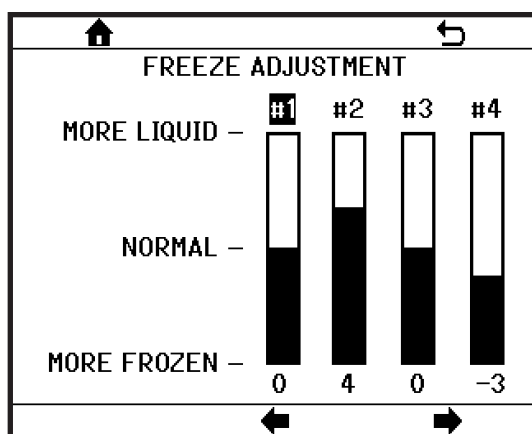

Figure 7.21
- FREEZE ADJUSTMENT: Used to adjust drink temperature or how frozen the drink is (Figure 7.21).
FREEZE ADJUSTMENT (Figure 7.21) - Allows the user to make the drink more liquid or more frozen.